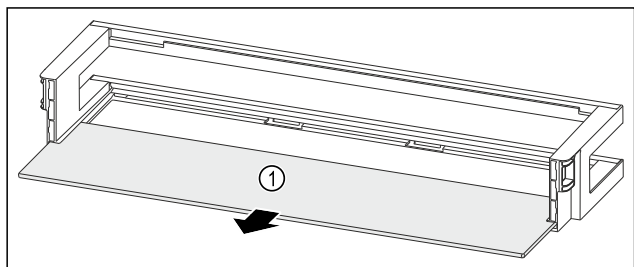

Fig. 87 Door racks with shelf
- Remove the shelf Fig. 87 (1).